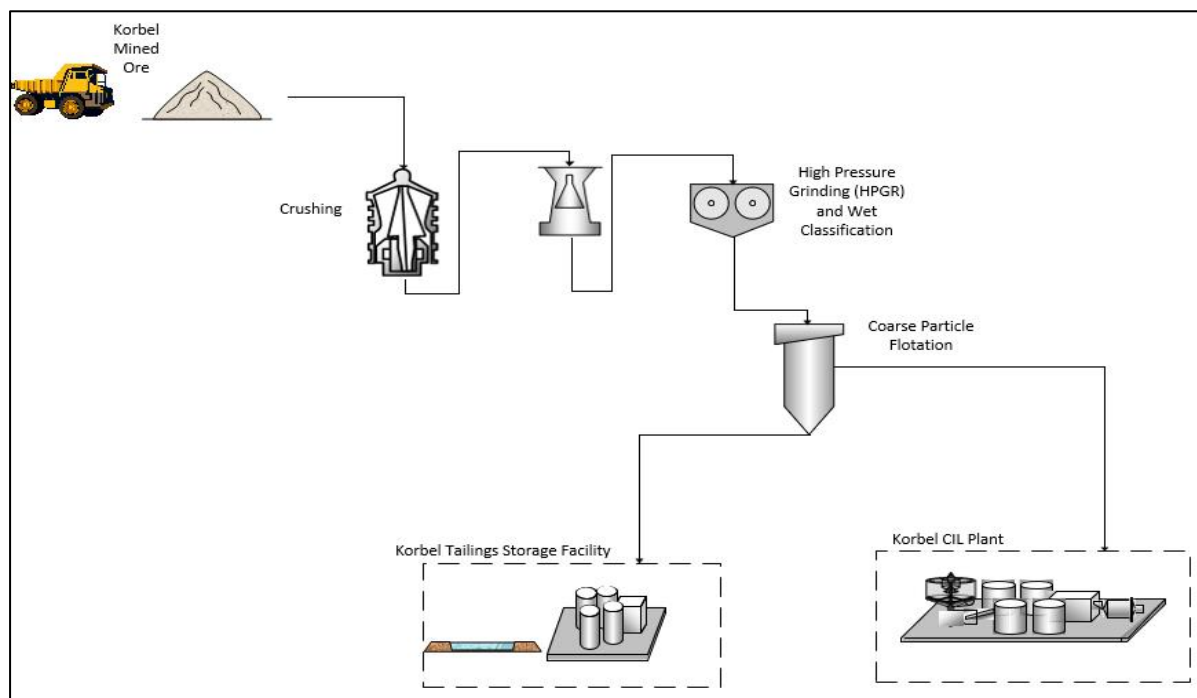

Figure 2. High-level conceptual flowsheet for Korbelt ore
- **Significant Potential PFS Value Upside:** Application of coarse particle flotation to the bulk tonnage JORC-compliant 1,040 Mt @ 0.3 g/t Au (8.65 Moz Au) Korbel resource (Table 4) is expected to enhance Estelle’s PFS outcomes by upgrading low-grade ore, reducing processing intensity, lowering energy use, improving gold recovery, and simplifying the flowsheet (Figure 2) by potentially eliminating ore sorting and heap leach requirements and allowing a significantly smaller Carbon-in-Leach (CIL) plant.
The proposed flowsheet (Figure 2) demonstrates the potential to fully utilise the Korbelt resource by integrating coarse particle flotation for early upgrading with downstream CIL treatment for gold recovery.